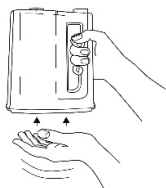

Figure 1
2. Observe that when handling the absorber channeling of the soda lime might occur. The channeling can reduce the CO₂ absorption capacity of the product resulting in early CO₂ breakthrough. Channeling can be removed by tapping the canister gently on a hand or on a table 3-4 times in the orientation in which it will be installed (see Figure 1).